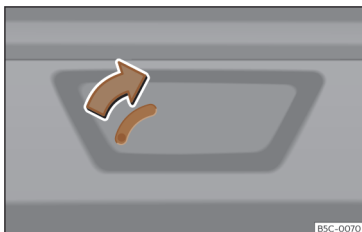

Fig. 92 Detail of the luggage compartment: manual release mechanism (Leon Sportstourer).
- Insert the key blade into the slot and move the key in the direction of the arrow until the lock unlocks»» **Fig. 92**.